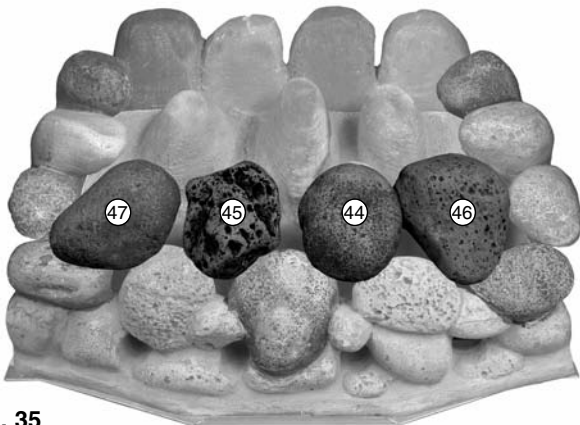

Fig. 35
5. Following Figs. 35 to 37, place the loose pebbles on to the fuel bed. It is important that the pebbles 'nest' together and sit on top of the fuel bed peaks.